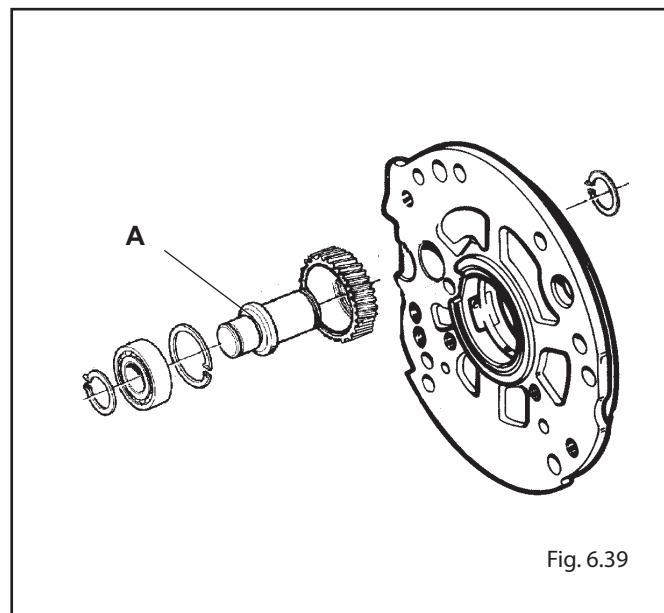

Fig. 6.39
6.28 INTERMEDIATE GEAR (FIG. 6.39)